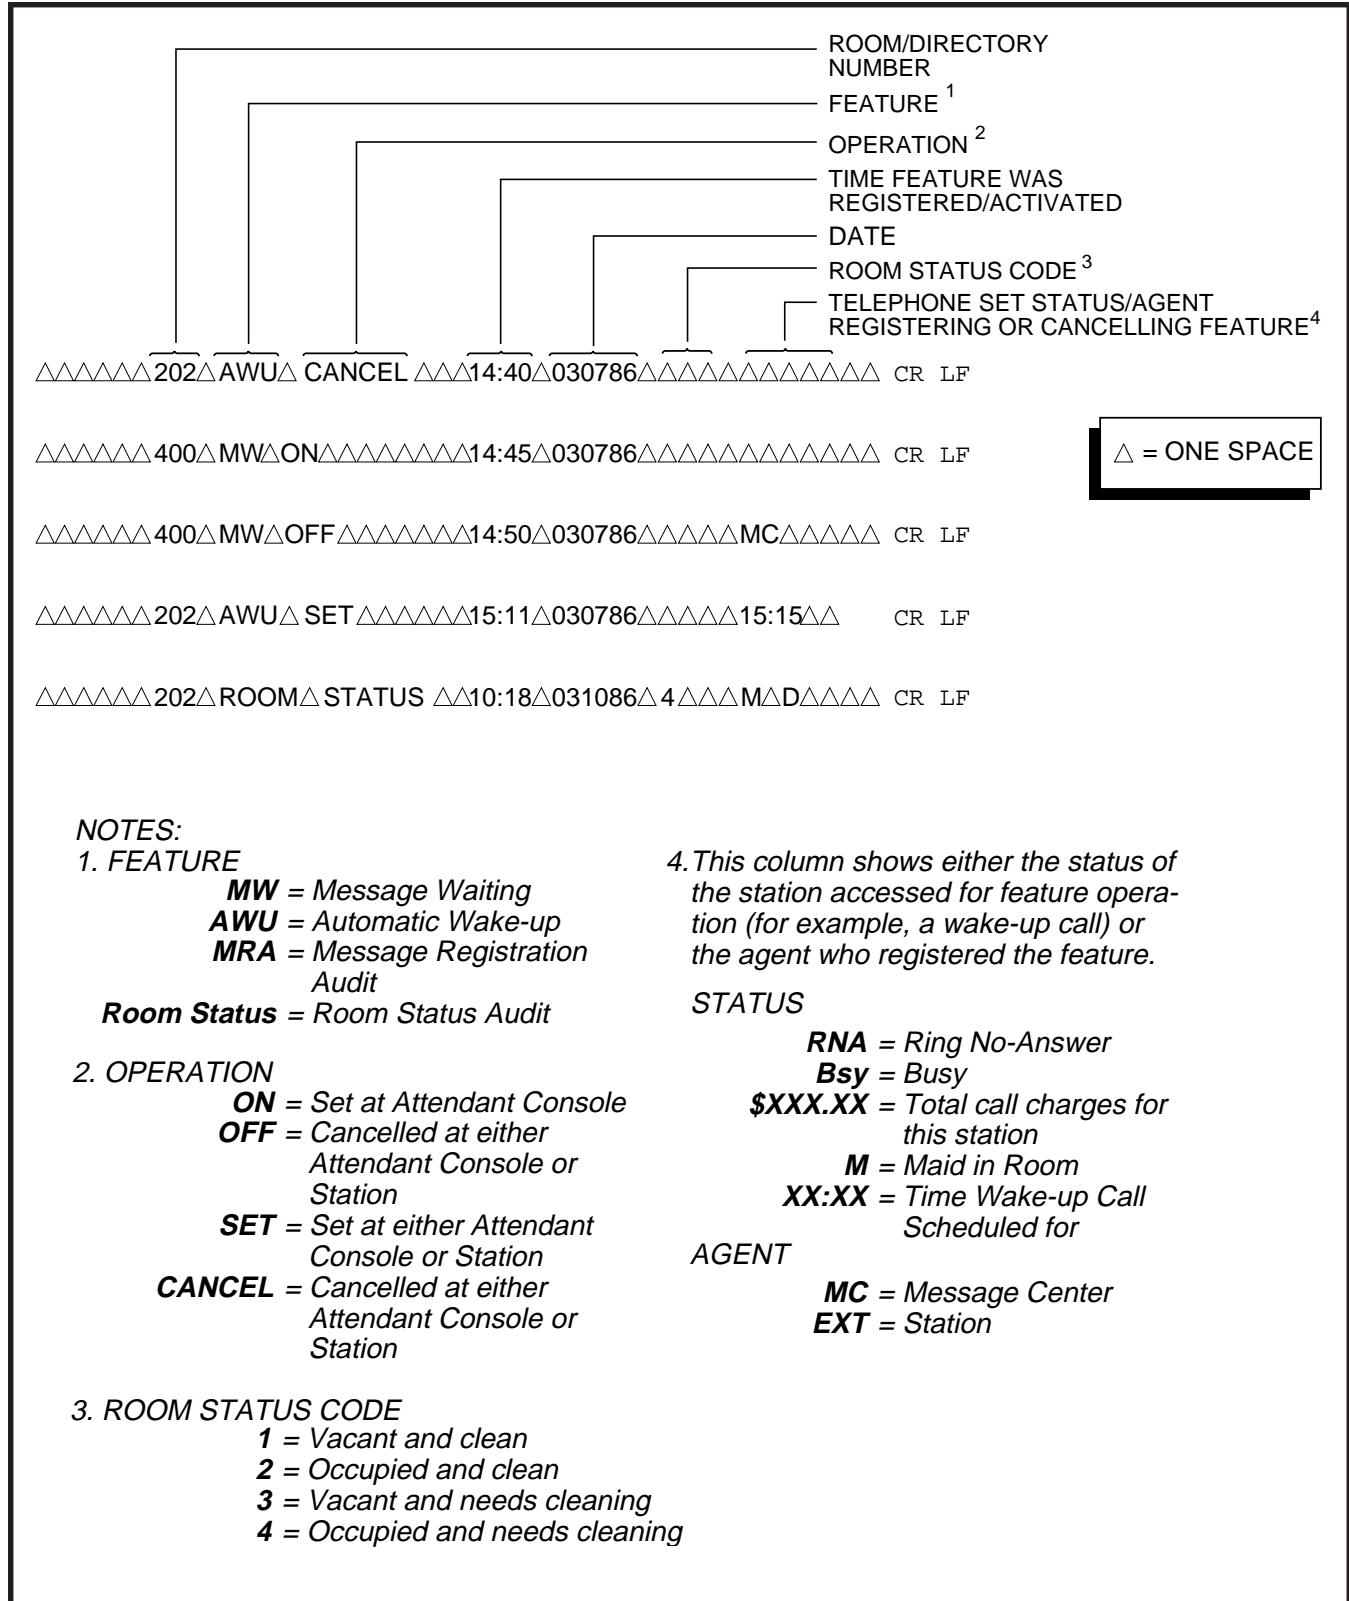

FIGURE 4-74—EXAMPLE: AUDIT PRINTOUT (LODGING/HEALTH CARE)
**9.86** Figure 4-74 shows a typical Lodging/Health Care audit printout. Notes on the figure explain the possible value for each column.